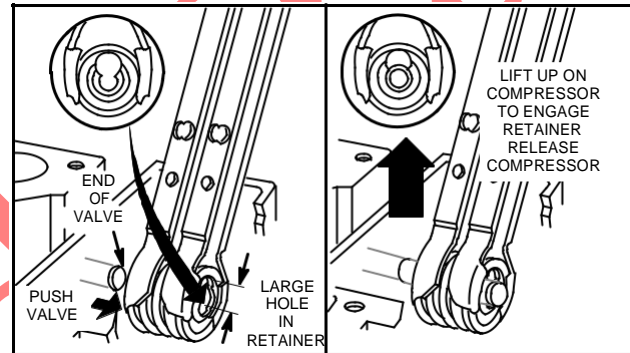

Fig. 19 – Installing Intake Valve
4. Push valve stem through valve stem seal and large hole in valve spring retainer, Fig. 19.